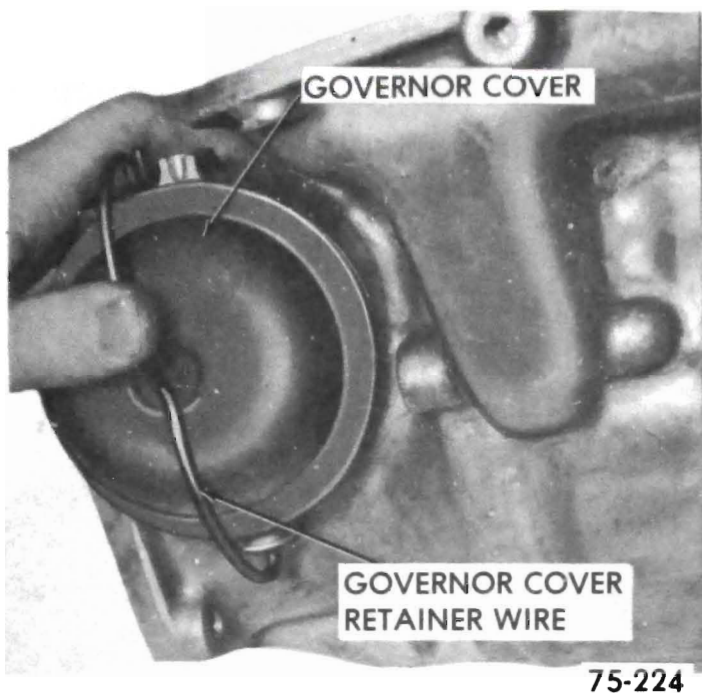

Figure 75-280
2. Install governor assembly, cover and seal and retainer wire. See Figure 75-280. Use extreme care not